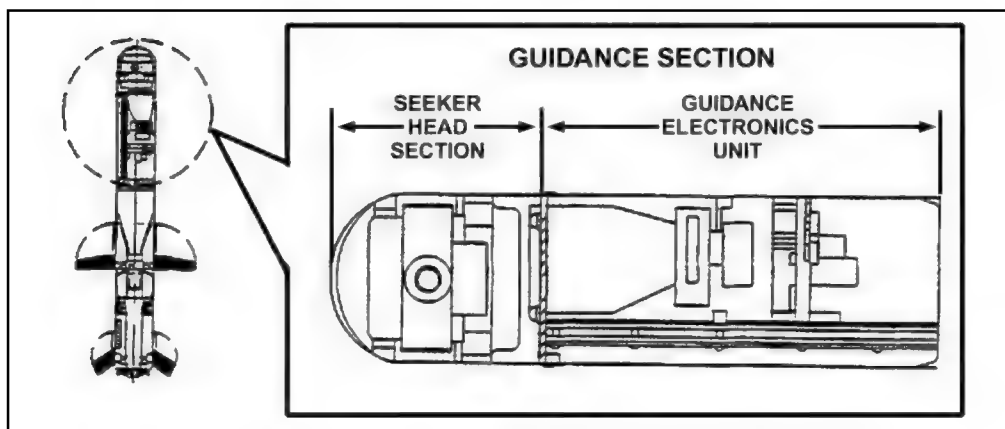

Figure 1-21. Missile guidance section.
The missile consists of the guidance section, the mid-body section, the warhead, the propulsion section, and the control actuator section (Figure 1-21, page 1-14).
- a. **Guidance Section.** The guidance section (Figure 1-21, page 1-14) provides target tracking and flight control signals. It is the forward section of the missile and includes the seeker head section and the guidance electronics unit.